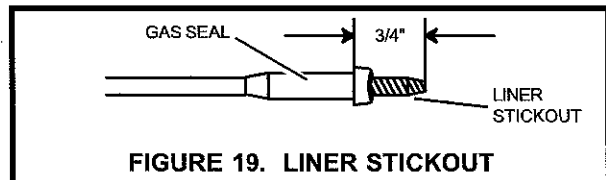

FIGURE 19. LINER STICKOUT
3. Adjust the liner stickout length to 3/4" as shown in FIG. 19.